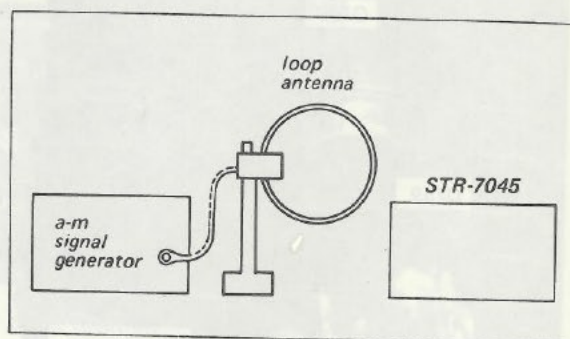

Fig. 3-11. Tuning meter calibration test setup
1. Connect the equipment as shown in Fig. 3-11.